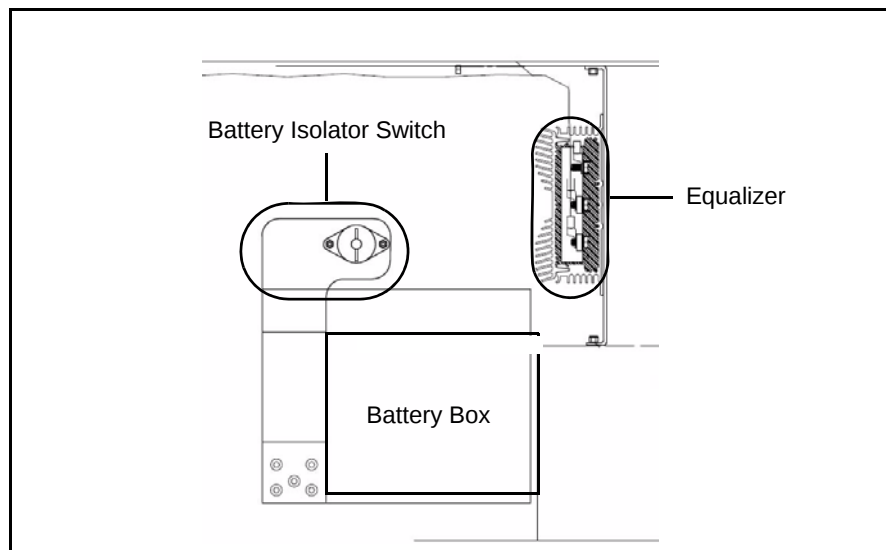

Figure 1-10 Orion NG Sure Power Equalizer Location
3. Locate the battery equalizer in the battery box area. See **Figure 1-10**.